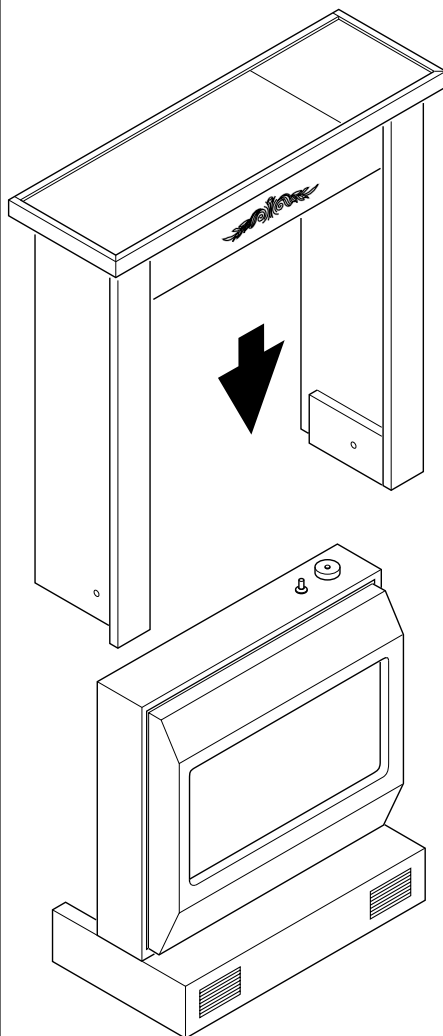

Figure 22
1. Place mantel over heater (see Figure 22). Back side of mantel should be even with back of hearth base. Mantel front should not extend past brass trim around heater cabinet.